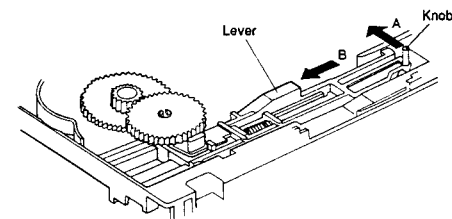

Figure 34
- (3) While pressing the knob in direction arrow A, as shown in Figure 34, move the Slide Lever in direction arrow B until to stop.